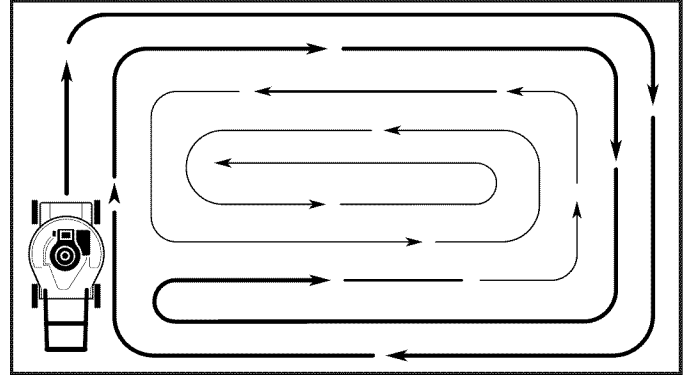

FIG. 10
- For side discharge operation, cut in a counterclockwise direction, starting at the outside of the area to be cut, in order to spread grass clippings more evenly and to put less load on the engine. To keep clippings off of walkways, flower beds, etc., make the first cuts in a clockwise direction (See Fig. 10).